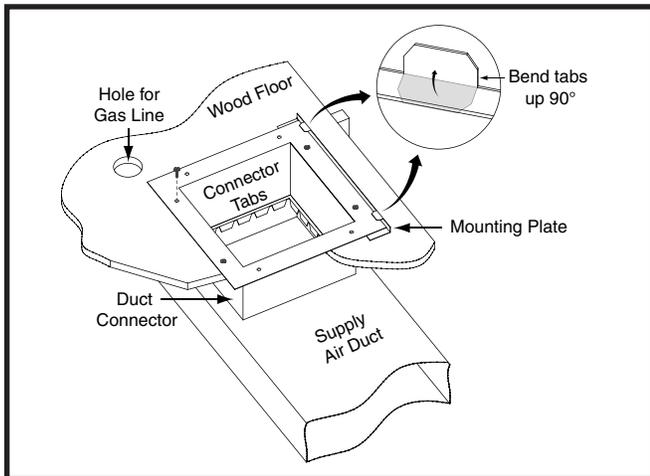

Figure 8. Standard Duct Connector Installed
- Mark the cut-out area on the supply air duct by tracing around the connector tabs of the duct connector. See Figure 8 (page 7).
- Install the optional mounting plate under the back side of the duct connector as shown in Figure 8. Align the screw holes in both components.